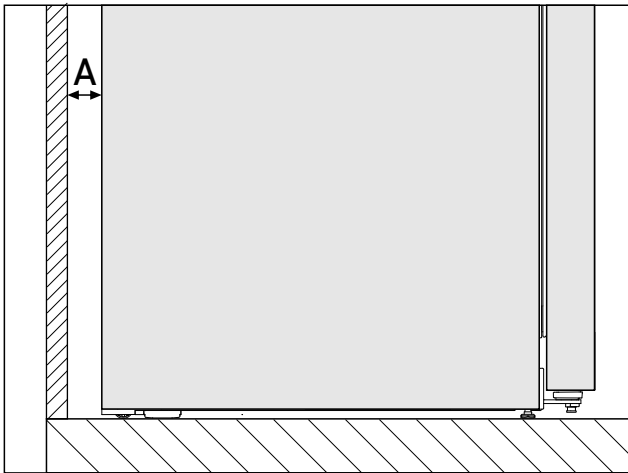

Fig. 2 *
The energy consumption has been determined with a gap of Fig. 2 (A) between the rear of the appliance and the wall. If the distance from the wall is less than Fig. 2 (A), this will not affect the appliance's performance. If the distance from the wall is reduced, energy consumption may increase slightly and condensation may form on the rear panel of the appliance.*